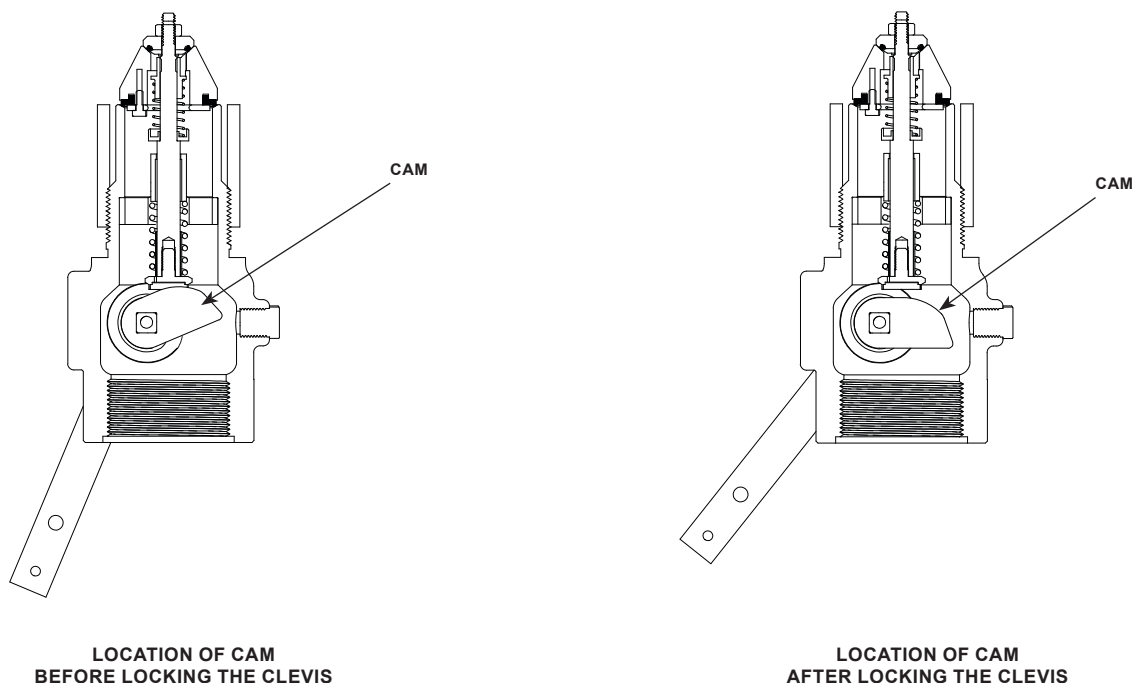

Figure 8. Cam Location
1. Install the cotter pin (key 6) through the operating lever and the internal valve shaft. The clevis (key 8B) is factory installed at 0.79 in. / 20 mm from the face of the brake chamber for optimal operation and should not need additional adjustments. If the internal valve does not close, then adjust the clevis position as follows.
2. Loosen the clevis hex nut (key 8E), the cotter pin (key 8D) and clevis pin (key 8C) to adjust the clevis (key 8B).
3. Establish the clevis position by moving the lever (key 5) so that the cam inside the internal valve is touching the stem (see Figure 8).
4. Rotate the lever back 1/8 in. / 3.2 mm which moves the cam away from the follower (See Figure 8).
5. Adjust the clevis (key 8B) to fit the lever position in step 4.
6. Tighten the clevis hex nut (key 8E). Attach the clevis pin into the lever and clevis. Install the cotter pin on to the clevis pin.